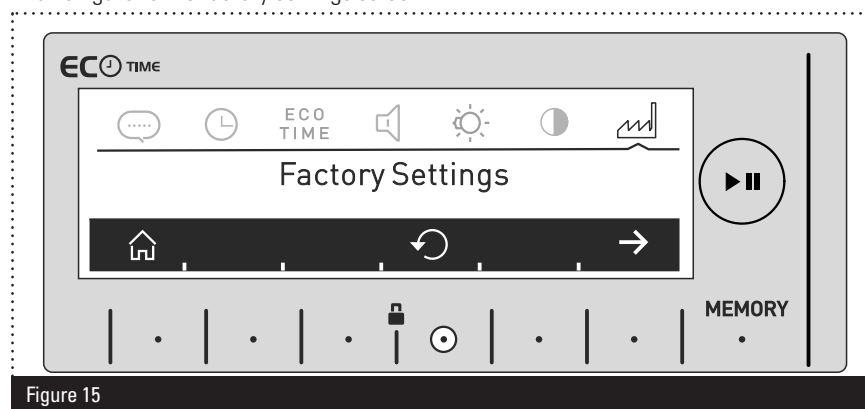

Figure 15
- » Press the Menu button on the main programme screen and then press the > button until the screen shown in fig 15 is displayed. If you are already in the setting menu, use the > button to navigate to the factory settings screen.